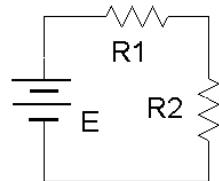

Figure 2
6. Build the circuit of Figure 2 using $E=10\text{ V}$, $R_1=10\text{ k}\Omega$ and $R_2=33\text{k}\Omega$. Connect a probe from the channel one input to the power supply (red or tip to plus, black clip to ground). Connect a second probe from channel two to R_2 (again, red or tip to the high side of the resistor and the black clip to ground).